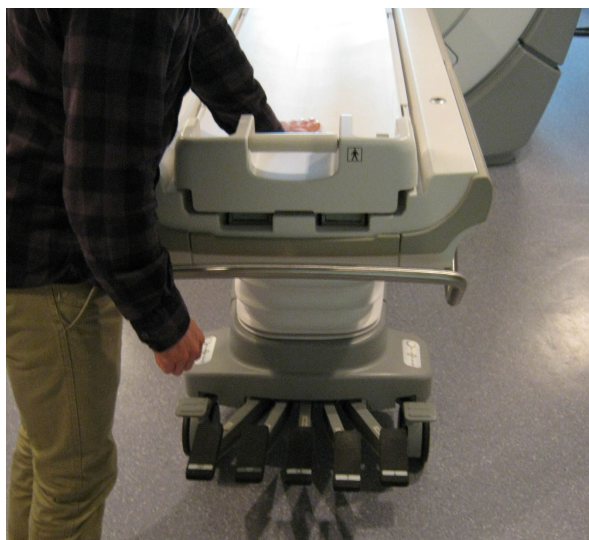

Figure 24. Provide downward pressure while attempting to undock table.
- 2) Try redocking by pressing the mechanical and electric dock pedals and then attempt to undock again using the foot pedal while pressing down near the end of the patient cradle (Fig. 24)